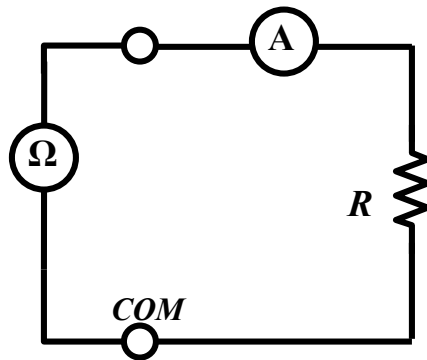

figure 4
4. Remove the handheld DMM from the circuit and reconfigure it as an ammeter. Do this by rotating the switch to select one of the DCA settings. We will use the 200uA range. With the ohmmeter on the 20k Ω scale and R at 5k, add the ammeter as shown in figure 4 below. Is the measured current close to the current you calculated in step 3 for this case? What is the measured resistance now? What must the series resistance of the ammeter be for this setting?
3. Although real ammeters aren't perfect short circuits, they do have very low resistances. For this reason you should always be cautious before connecting an ammeter to your circuit, or you may get an unintended exercise in replacing fuses. Look at the circuit in figure 4. Why could we set R to zero in this circuit without blowing the fuse in the ammeter? Note that if the ohmmeter were replaced with a voltage source, we most likely would have.